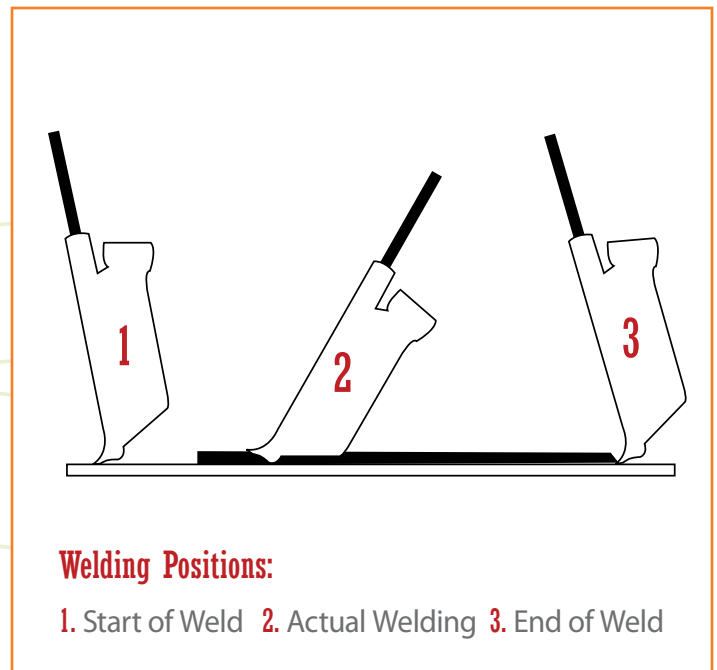

Figure 5. High-Speed Welding with round or triangular rod.
4. Continue exerting downward pressure on the rod, which will then bend and lower the shoe to the rod. The shoe of the tip will rest on top of the exposed part of the rod (see Figure 5, illustration 1).
5. While continuing to exert moderate pressure with the shoe, lean the welder to about 60° toward the operator and start pulling the welder in the same direction of the weld, at the same time helping the rod into the preheating tube with light hand pressure (see Figure 5, illustration 2).
b) Bring the welder quickly to an upright position and push down hard with the point of the shoe. This action cuts the rod at the end of the weld. The remaining rod is pulled out of the tube by hand (see Figure 5, illustration 3).